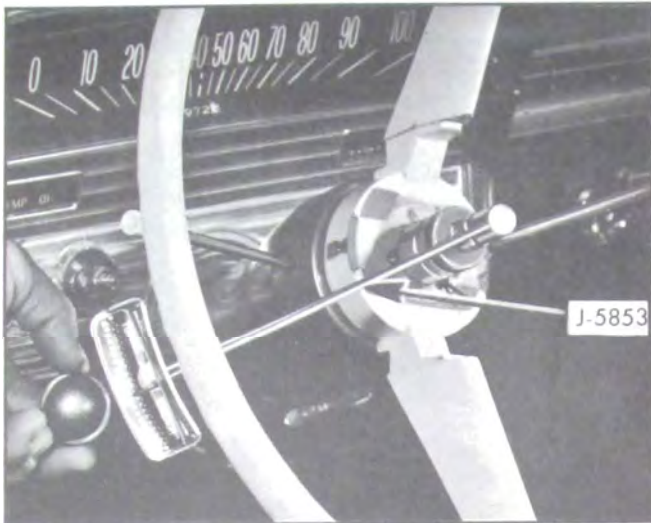

Figure 8-6—Checking Adjustments in Car
6. Attach torque wrench J-5853 to steering wheel retaining nut and check the torque required to turn the wheel steadily in the range where lash exists between ball nut and pitman shaft sector. See Figure 8-6. The torque required to keep wheel turning should be between 2 and 7 inch pounds. Adjust worm bearing preload if necessary.